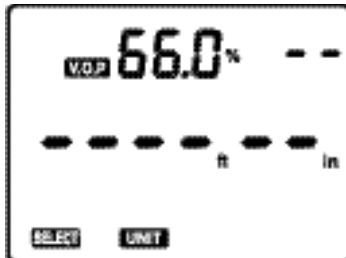
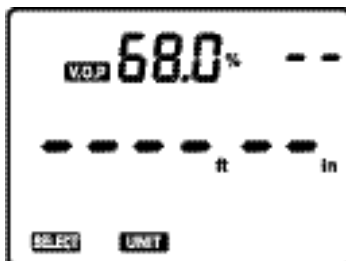

Fig. 1
Fig. 2
2. The Meter will display the previously selected cable setting (see Fig. 1 and Fig. 2) with its V.O.P.